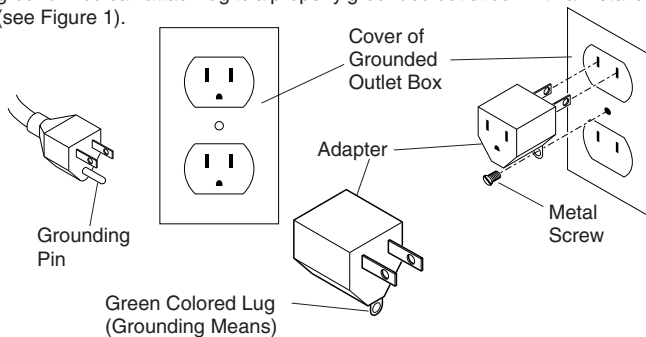

Figure 1
4. Make sure tool is grounded while in use. This will protect the operator from electrical shock. This tool has a three-wire cord and a three-prong, grounded plug. Only connect tool to a three-prong, grounded outlet. The green (or green and yellow) wire in the cord is the grounding wire. Never connect the grounding wire to a live terminal. If you have a two-prong outlet, use an adapter (see Figure 1). Attach the green-colored lug (extending from the adapter) to a permanent ground. You can attach lug to a properly grounded outlet box with a metal screw (see Figure 1).